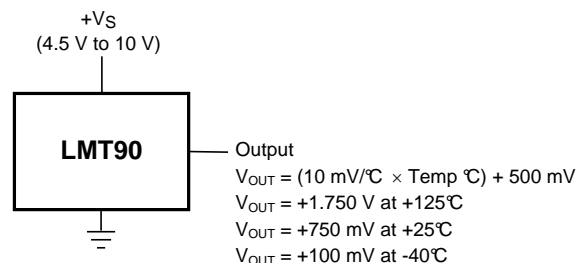

图 2. 全范围摄氏温度传感器（-40°C 至 +125°C）
Unless otherwise noted, these specifications apply for  $V_S = +5 V_{DC}$  and  $I_{LOAD} = +0.5 \mu A$ , in the circuit of Figure 2. **Boldface limits apply for the specified  $T_A = T_J = T_{MIN}$  to  $T_{MAX}$** ; all other limits  $T_A = T_J = +25^\circ C$ , unless otherwise noted.
- (1) Limits are specific to TI's AOQL (Average Outgoing Quality Level).
- (2) Accuracy is defined as the error between the output voltage and  $10 \text{ mV}/^\circ C$  times the device's case temperature plus 500 mV, at specified conditions of voltage, current, and temperature (expressed in  $^\circ C$ ).
- (3) Nonlinearity is defined as the deviation of the output-voltage-versus-temperature curve from the best-fit straight line, over the device's rated temperature range.
- (4) Regulation is measured at constant junction temperature, using pulse testing with a low duty cycle. Changes in output due to heating effects can be computed by multiplying the internal dissipation by the thermal resistance.
- (5) Quiescent current is defined in the circuit of Figure 2.
- (6) For best long-term stability, any precision circuit will give best results if the unit is aged at a warm temperature, and/or temperature cycled for at least 46 hours before long-term life test begins. This is especially true when a small (Surface-Mount) part is wave-soldered; allow time for stress relaxation to occur. The majority of the drift will occur in the first 1000 hours at elevated temperatures. The drift after 1000 hours will not continue at the first 1000 hour rate.